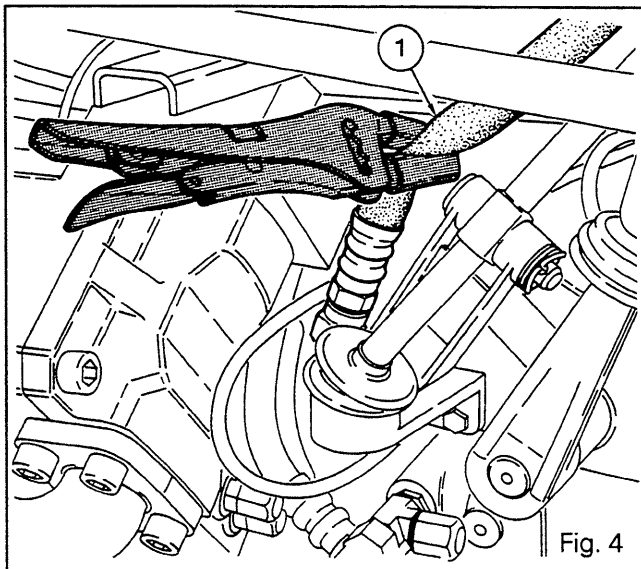

Fig. 4
1. Operate tractor engine at approximately 1200 tr/mn. Pinch return hose (1) using necessary security device (Fig. 4).